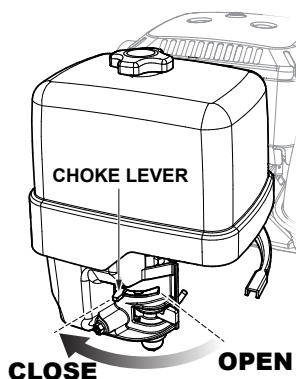

Figure 21. Engine Choke Lever (Closed)
2. Place the choke lever (Figure 21) in the **CLOSED** position if starting a cold engine.